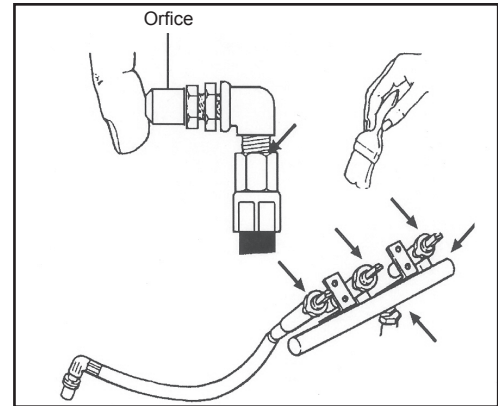

Fig. 3
5. If your grill is equipped with a side burner or rear burner (Fig. 3):